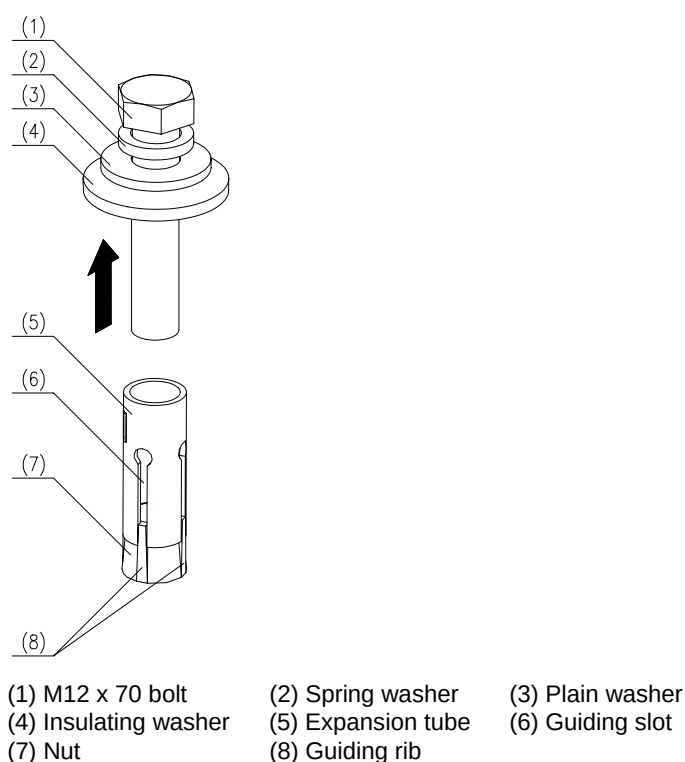

Figure 2-7 Disassembling an expansion bolt
- 4) Take off the M12×70 bolt, spring washer, plain washer, and insulating washer, as shown in Figure 2-7.